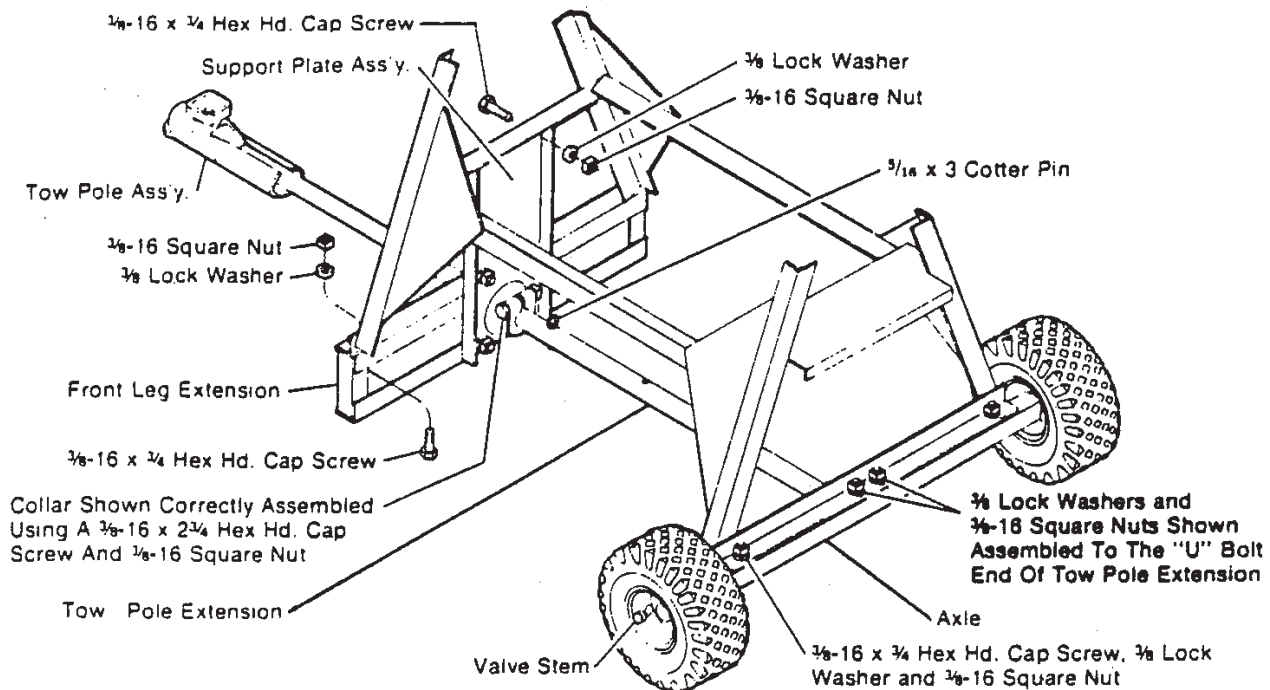

FIG. 2
2. Assemble wheels to wheel hubs. The hubs, bearings, axle nuts, cotter pins and hub caps have been assembled to the axle at the factory. **NOTE:** Wheels should be mounted so valve stems are to the outside. See Figure 2.
3. Secure axle to power side of mixer frame. Secure with (2)  $\frac{1}{8}$ -16 x  $\frac{1}{4}$  hex hd. capscrews,  $\frac{1}{8}$  lockwashers and  $\frac{1}{8}$ -16 square nuts. See Figure 2.
4. Secure front leg extension, Fig. 2, to tilt side of mixer frame. Secure with (2)  $\frac{1}{8}$ -16 x  $\frac{1}{4}$  hex hd. capscrews,  $\frac{1}{8}$  lockwashers and  $\frac{1}{8}$ -16 square nuts.
5. Secure support plate ass'y to mixer as shown in Figure 2. Secure to frame using (6)  $\frac{1}{8}$ -16 x  $\frac{1}{4}$  hex hd. capscrews,  $\frac{1}{8}$  lockwashers and  $\frac{1}{8}$ -16 square nuts.
6. Slide collar onto the tow pole extension. Insert end of tow pole extension through hole in support plate. Secure "U" bolt end of tow pole extension to axle using (2)  $\frac{1}{8}$ " lockwashers and  $\frac{1}{8}$ -16 square nuts. See Figure 2.
7. Insert end of tow pole ass'y into the tow pole extension. Line up holes and secure in position with a  $\frac{3}{16}$  x 3" cotter pin. See Figure 2.
8. Secure collar by sliding collar tight against support plate and locking with a  $\frac{1}{8}$ -16 x  $2\frac{1}{4}$  hex hd. capscrew and a  $\frac{1}{8}$ -16 square nut. See Figure 2.